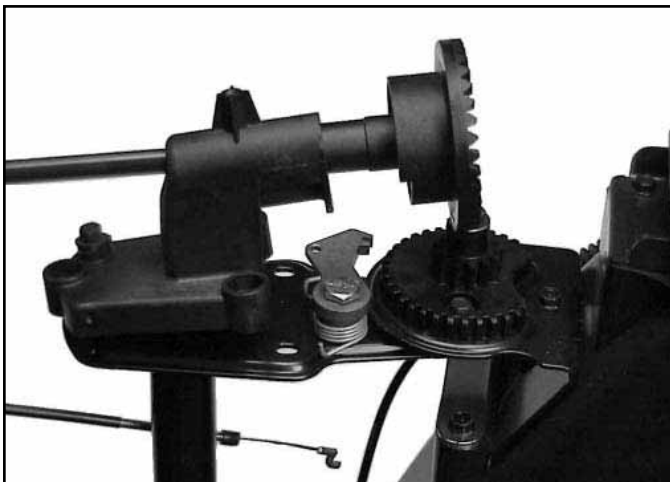

Fig 221
- Raise the front of the face gear and slide it off the chute rod (Fig. 221).